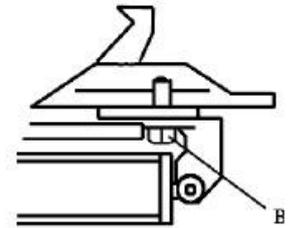

Fig 17
Note: After the first 20 days of use, retighten the jaws with tightening screws (B) on the Turntable (Fig 17)